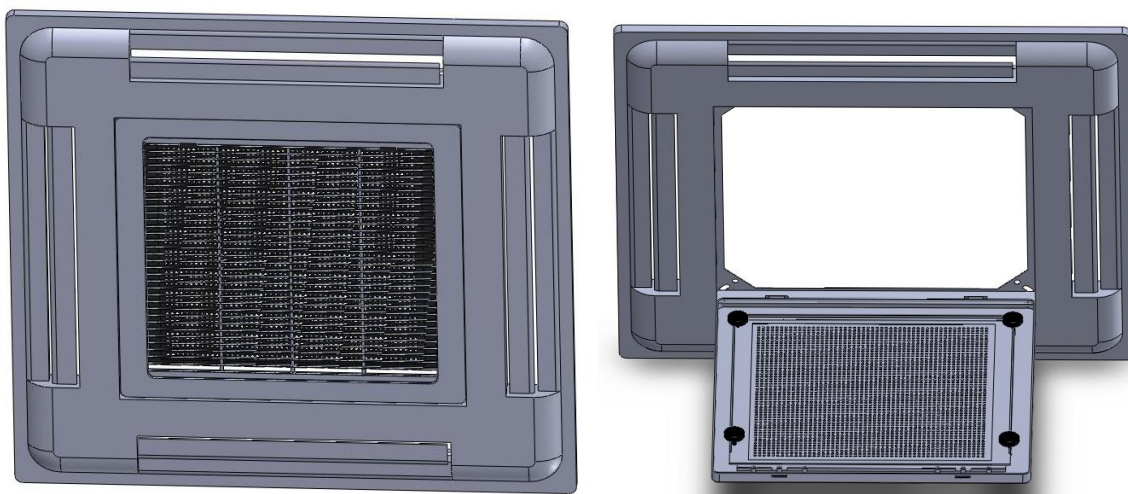

Figure 30
- 2) The air filter is made of acrylic fiber and is washable in water. To remove filter simply open the intake grille by releasing the two catches. See Figure 30 for the section filter removal.